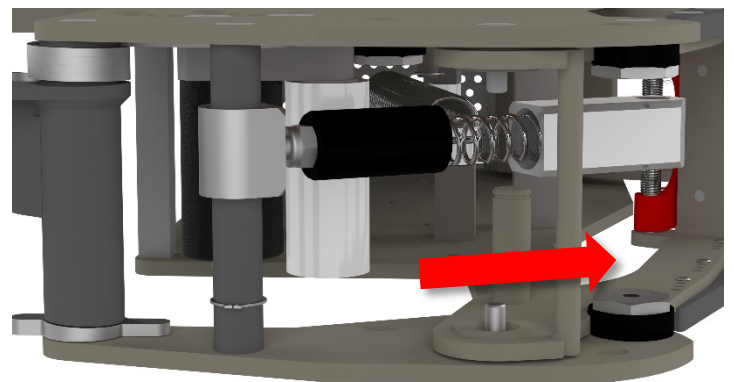

Figure 10-8
3. Remove the spring barrel from overlapping position as shown in **Figure 10-8**. Remove any broken particle from the spring guide. Install new compression spring into the captive position.